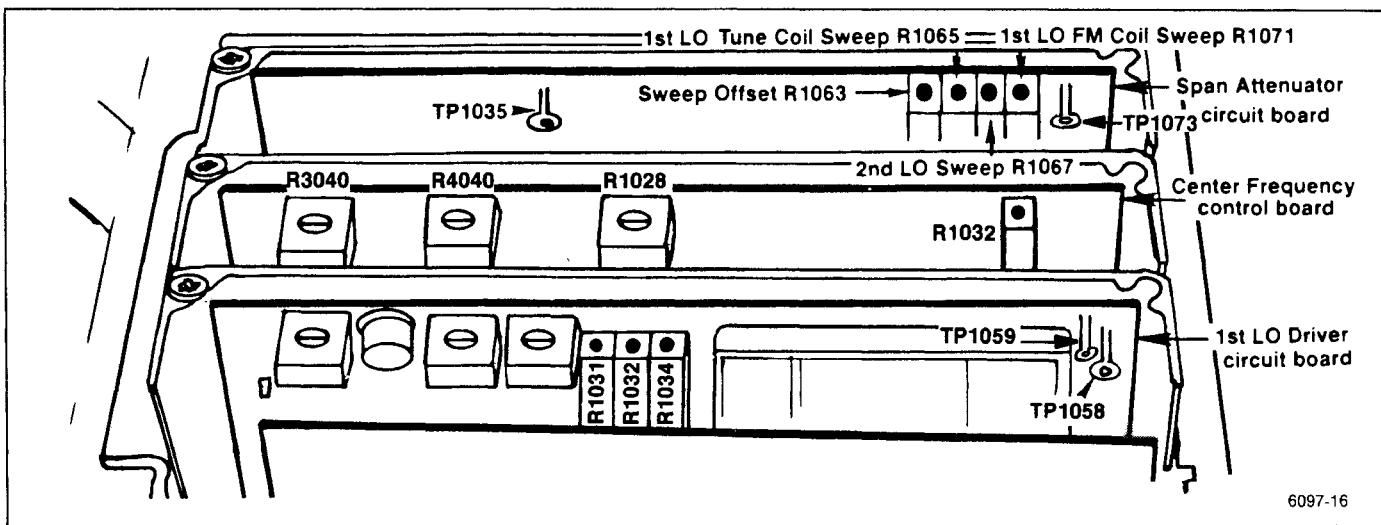

Figure 5-10. Frequency control system test point and adjustment locations.
b. Connect a shorting strap from TP1035, on the Span Attenuator board, to chassis ground (Figure 5-10). Monitor TP1073 with the Digital Voltmeter.
c. Adjust Sweep Offset R1063 (Figure 5-10) for 0.00 V.
d. Remove the shorting strap from TP1035. Press <SHIFT> 0 select item 1 (FREQUENCY LOOPS CAL), then item 0 (OVERALL SYSTEM) from the menus. Perform the calibration steps in the directory up to "CONNECT A DVM TO PIN B ON THE CONTROLLED OSCILLATOR BOARD AND GROUND", then press <SHIFT> to abort.
(1) If a "CALIBRATION STEP CANNOT BE COMPLETED" message is displayed, bypass the step, perform the other adjustments then return to the adjustment and try to bring the adjustment in range. If the problem persists, refer to Troubleshooting the Frequency Control System, in the Maintenance section.
(1) Apply the CAL OUT signal to the RF INPUT, set the FREQUENCY to 600 MHz, FREQ SPAN/DIV to 100 MHz, and set the REF LEVEL to display the markers.
(2) Adjust Tune Coil Swp R1065, on the Span Attenuator board (Figure 5-10) for one marker per division over the center eight divisions of the graticule. Reset the CENTER FREQUENCY as necessary to align the markers.
(3) Remove the Calibrator signal and apply  $0.2 \mu\text{s}$  time marks from the Time Mark Generator to the RF INPUT.
(4) Set the FREQ SPAN/DIV to 5 MHz, REF LEVEL to +10 dBm, and FREQUENCY to about 10 MHz.
(5) Adjust the 1st LO FM Coil Swp R1071 (Figure 5-10) for 1 marker/division over the center eight divisions of the display.
(6) Set the FREQ SPAN/DIV to 20 KHz and apply  $50 \mu\text{s}$  markers from the Time Mark Generator.
(7) Adjust the 2nd LO Sweep, R1067, for one marker/division over the center eight divisions.